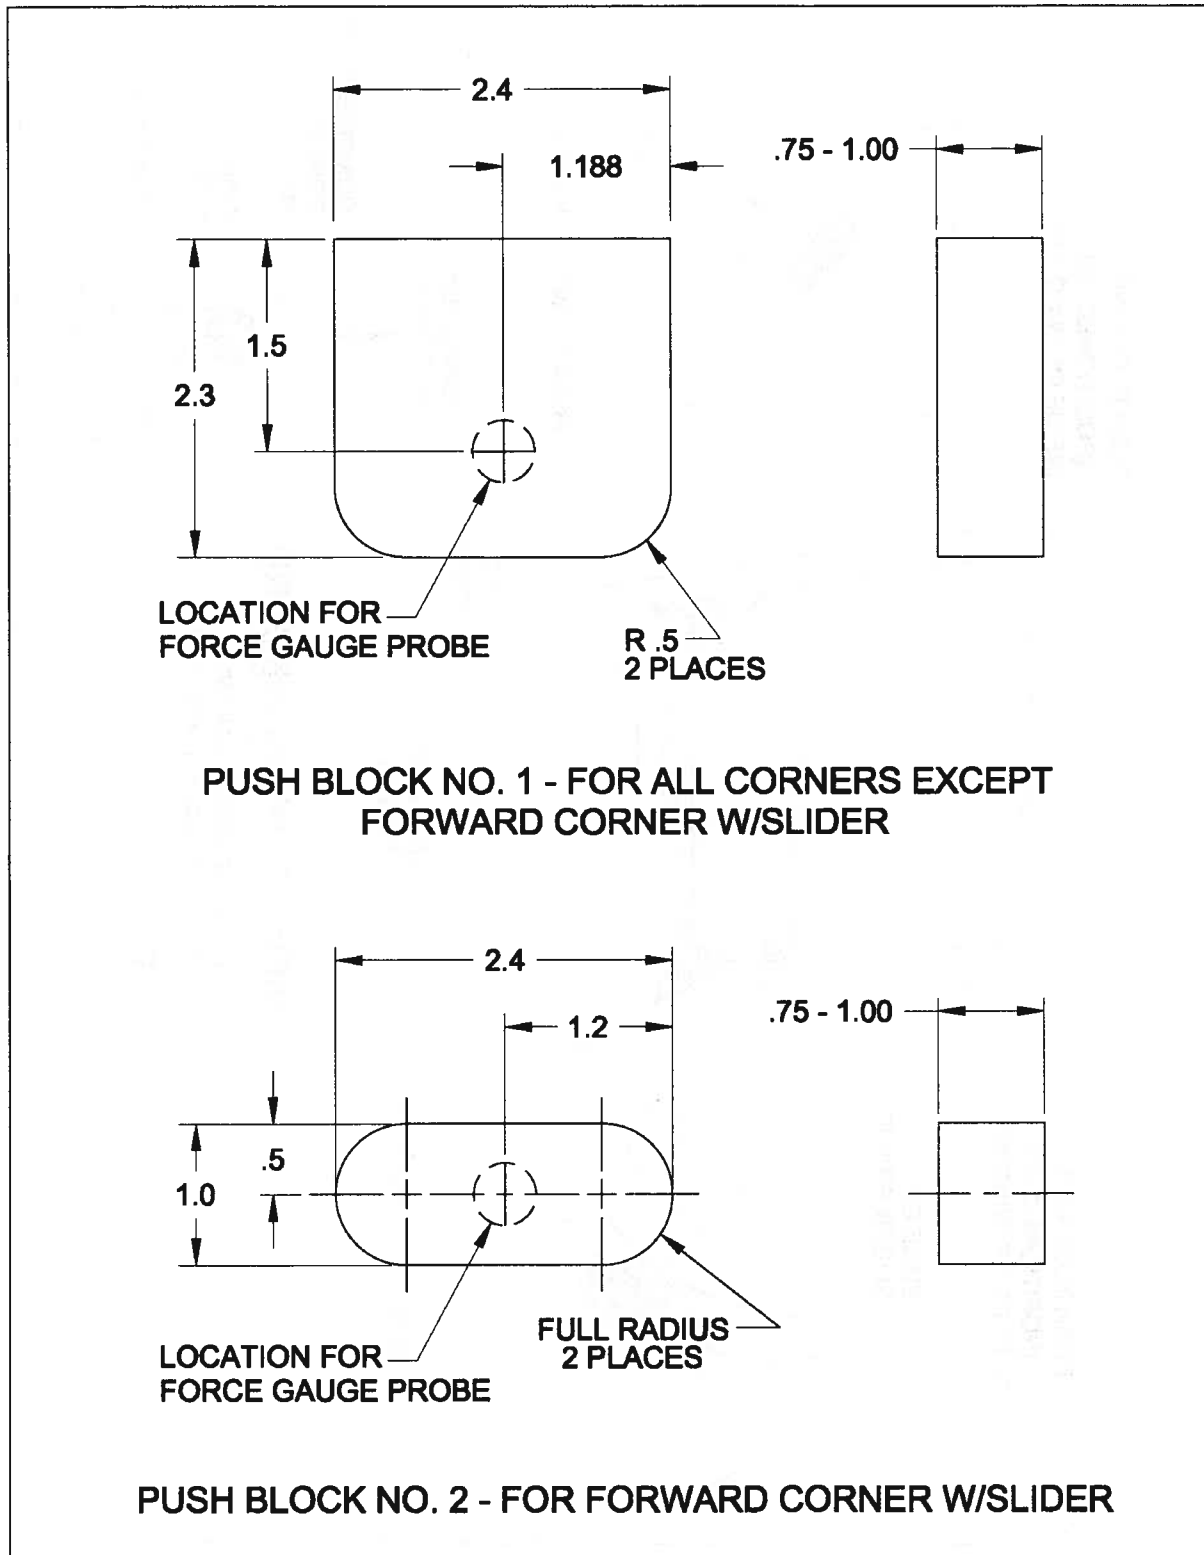

FIGURE 2 - PUSH BLOCK DIMENSIONS (DO NOT SCALE)
11. Repeat Steps 1 thru 10, as applicable, for the opposite window installation (see Figures 2, 3, 5, 6, 7, and 8).
Refer to Figures 2, 3, 4, 7, 8, 9 and 10.
Use of a calibrated compression force gauge is required to conduct this procedure along with a push block (see Figures 2 and 3) made from a material, such as wood, that will not scratch or damage the window.
8. Repeat Steps 1 thru 7 for the opposite window verification test (see Figures 2 thru 4, and 7 thru 10).